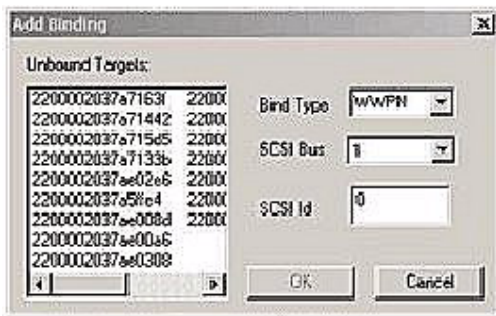

Figure 2: Add Binding window
3. Click on a target and click **Add**. The **Add Binding** window displays, as shown in Figure 2.